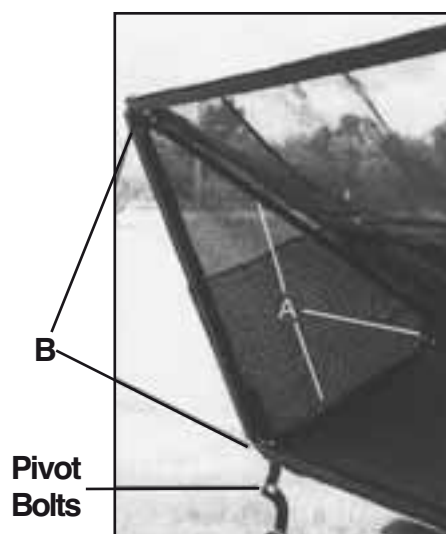

Figure 3.6 - Frame Installation
1. With the grass catcher assembly mounted on the mower, open up the grass catcher fully. To hold the grass catcher open, tighten the pivot bolts. (Refer Figure 3.6)
2. Insert the internal frame assembly (A) into the grass catcher, aligning the mounting holes on the internal frame over the locating bolts on the catcher assembly.
3. Secure using four 1/4" nyloc nuts (B). (Refer Figure 3.6)